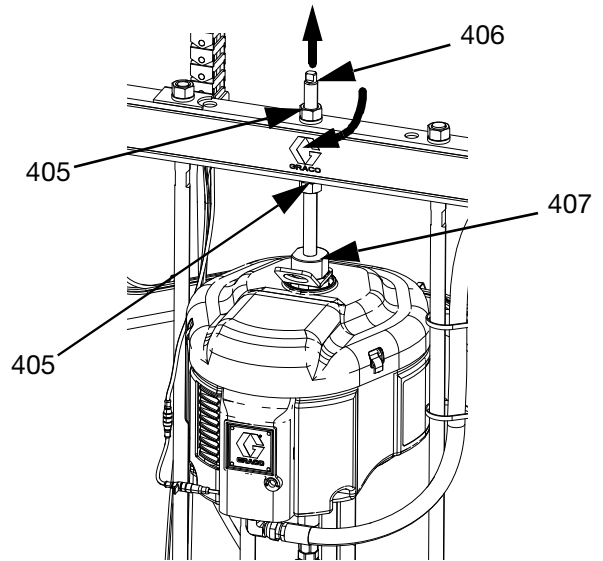

FIG. 44
1. Insert Displacement Pump (C) on Platen (D). Follow **Connect Platen** steps on page 107.
3. Connect Air Motor (B):
- a. Use wrench on nut (405) on top of tie bar to lower Air Motor (B) onto Displacement Pump (C). See FIG. 44 on page 108. Thread nut (405) up and tighten it under tie bar. Tighten nut (405) below the tie bar to 25 ft-lb (34 N•m) maximum.